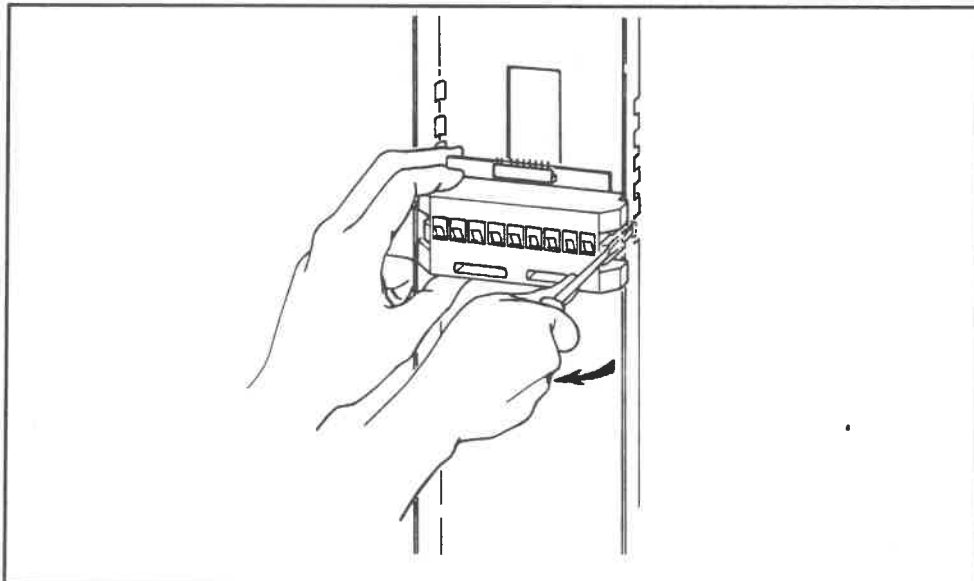

Figure S-13c
11. Press the blade of a slotted head screw driver between one of the Receptacle Block locking tabs and the Receptacle Mounting Channel. See Figure S-13c. This will unseat the locking tab.